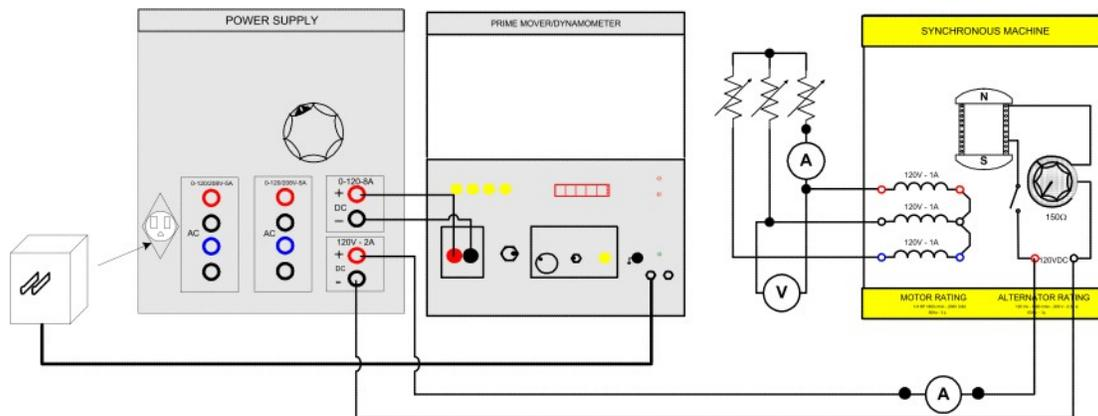

FIGURE 10.4
Step 1: Using your EMS Synchronous Motor/Generator, Prime Mover/Dynamometer (PMD), Resistance, Power Supply and Data Acquisition Interface (DAI) modules in the EMS workstation, connect the circuit shown in Figure 10.4. Note that the balanced resistive load is wye connected to the three-phase output of the alternator. The alternator rotor is connected to the fixed 120Vdc output of the power supply, terminals 8 and N. The prime mover dynamometer is connected to the variable 0-120Vdc outputs of the power supply, terminals 7 and N.